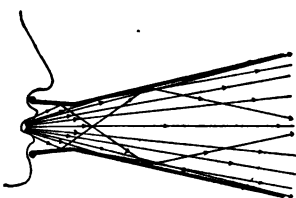

FIG. 129.—MEGAPHONE
**163.** If sound waves can be prevented from spreading in all directions and concentrated in one direction, the loudness can be increased. Sound waves undergo reflection, just as do light waves, when they encounter a medium different from the one through which they are passing. A sounding board placed above and behind a speaker or band reflects some of the sound waves in one general direction, which thus helps out those naturally going in that direction. In the megaphone and speaking tube we have this reflection phenomenon most advantageously utilized (Fig. 129).